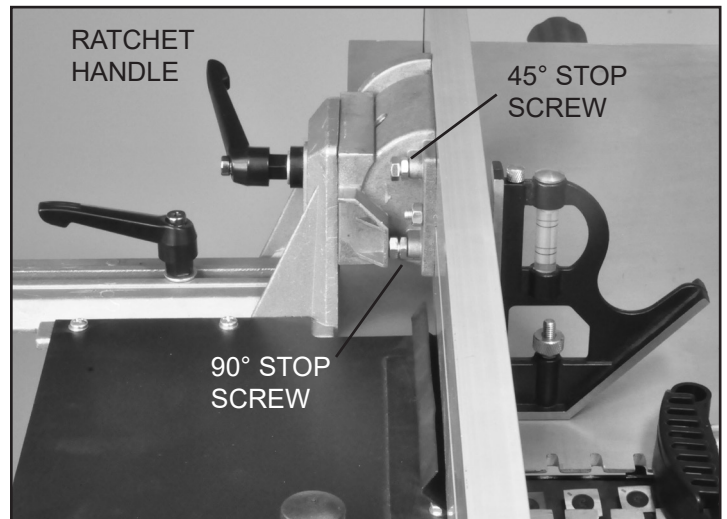

FIG. 20
3. Set the rear, lower 90° Stop Screw (#221) on the fence Bracket (#201). This will ensure that the fence always returns to 90°. FIG. 20.
4. This same operation should also be carried out for setting the fence at the 45° angle, and fastening the upper 45° Stop Screw. FIG. 20. Note: the 45° angle is actually 135° from the jointer table.